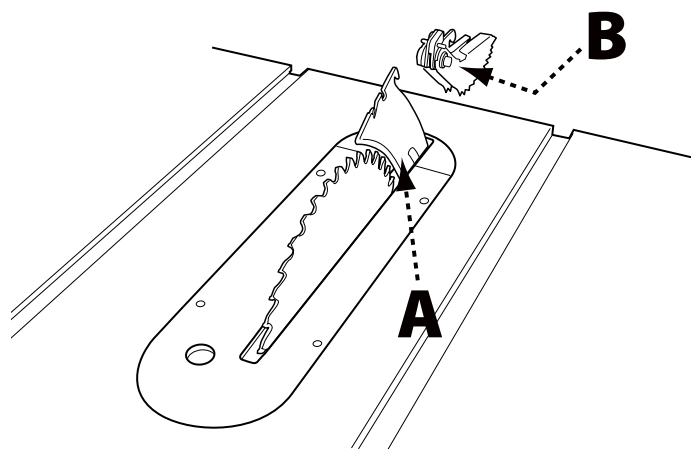

FIGURE 12
2. The riving knife comes installed in the low, non-through cutting position. To attach the anti-kickback pawls and blade guard assemblies, the riving knife must be in the raised position as shown in Figure 12. To raise and lower the riving knife, see Riving Knife Height Settings on page 20.
1. Refer to Figure 12 and locate the anti-kickback pawls mounting slot (A) in the middle of the top edge of the riving knife.
2. Slide slot in the middle of the anti-kickback pawls assembly along the top of the riving knife until the stem (B) locates the center slot on the riving knife.
3. Depress the stem on the anti-kickback pawls assembly (B) to allow the assembly to drop into the slot. Push down on the anti-kickback pawls assembly until it snaps into place and locks. Release stem. **NOTE:** Pull up on the anti-kickback pawls to make sure it is locked in place.